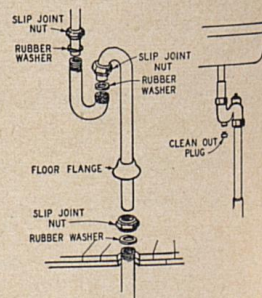

Fig. 66
- Water traps in kitchen sinks and wash bowls can be cleaned as shown in Fig. 66.